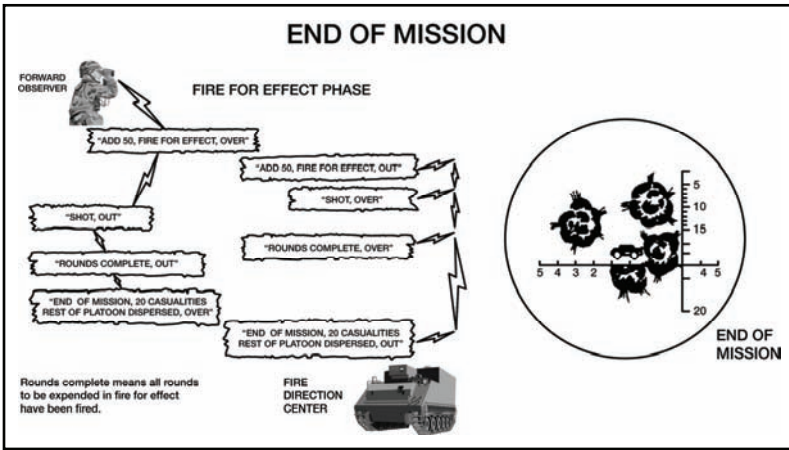

Figure 061-283-6003-9. End of mission
5. Observe the results of fire for effect, transmit refinements (if necessary), and provide end of mission and surveillance (figure 061-283-6003-9).